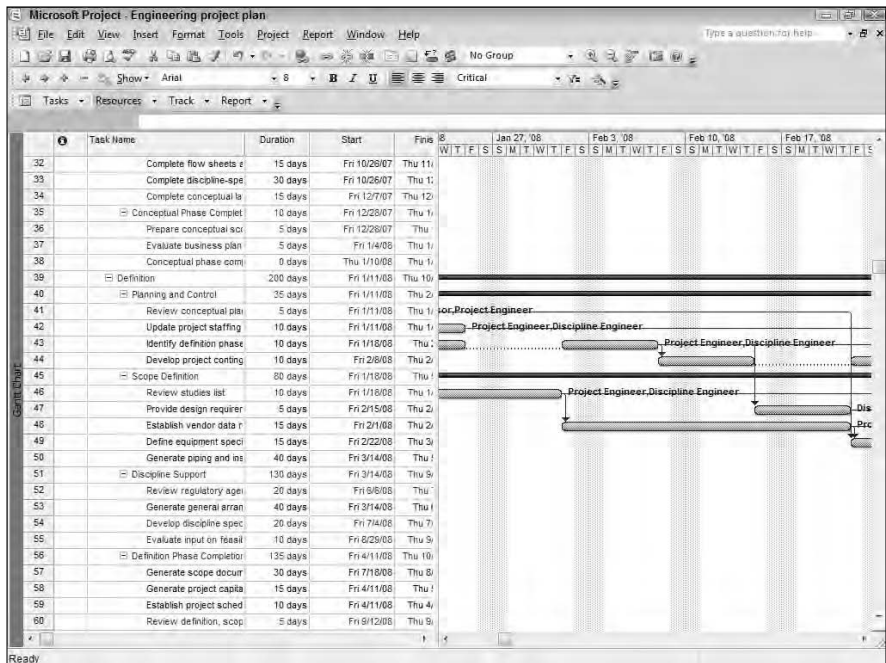

Figure 4-4: Highlighting critical tasks in a project with a tight schedule can be a useful tool.
- ◆ Use filters to help your bosses focus on areas such as the critical path (see Figure 4-4). Being able to see the critical path helps you to demonstrate how little spare time your plan provides, and hence how unrealistic forcing you to stick to it might be.